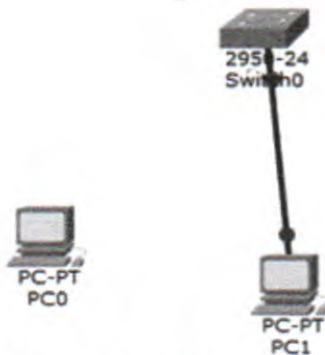

Figure 6.4: Topology to Demonstrate Port-Security
7. Disconnect the system and connect another system as shown in Figure 6.4